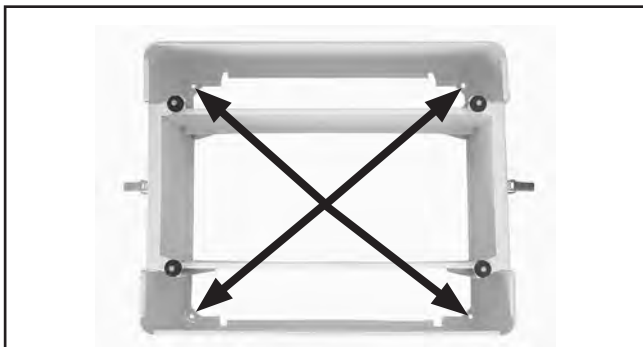

Figure 8. Base mounting holes.
3. Remove the rubber feet and install 10mm or $\frac{3}{8}$ " bolts through the mounting holes (**Figure 8**).